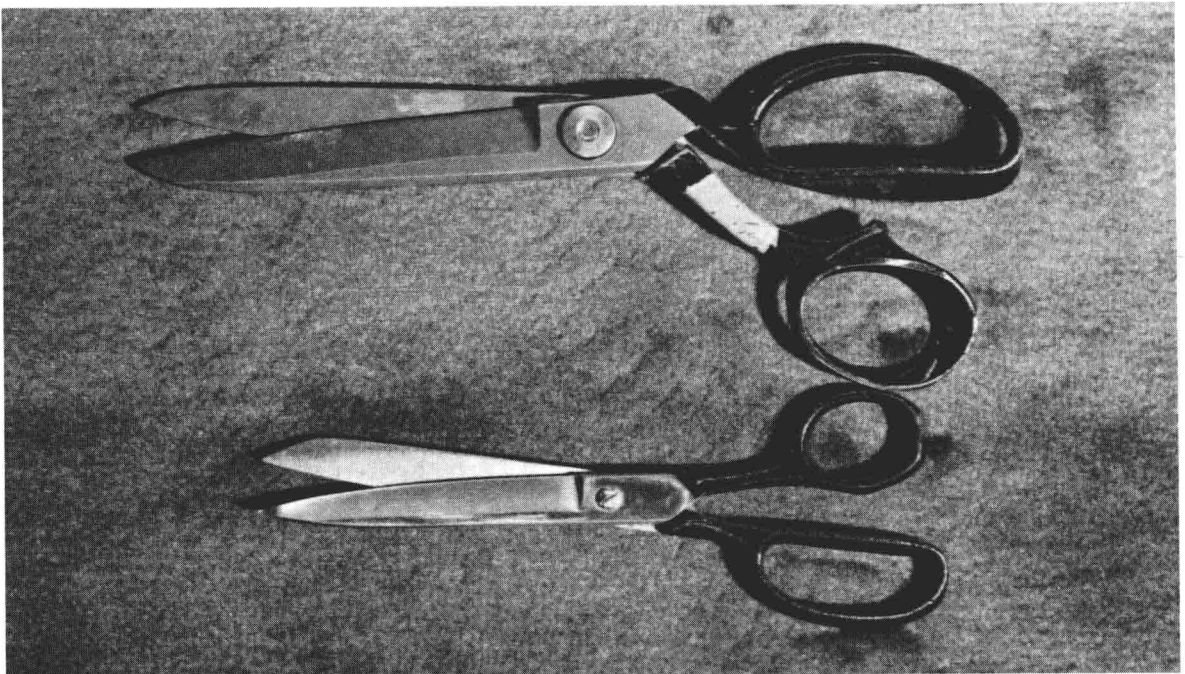

Fig. 2-1. Upholsterer's shears (top); heavy-duty household shears (bottom).
**Upholsterer’s Shears.** No one, after they have tried to cut some of the upholstery fabrics, would consider doing it (more than once) with a pair of common household scissors, Fig. 2-1, bottom. The heavy-duty upholsterer’s shears (Fig. 2-1, top) really, are quite necessary. If a lot of cutting is to be done at one time, shears will be found much more “friendly”—they don’t create blisters nearly so fast nor muscle cramps nearly so acute as do the common scissors.